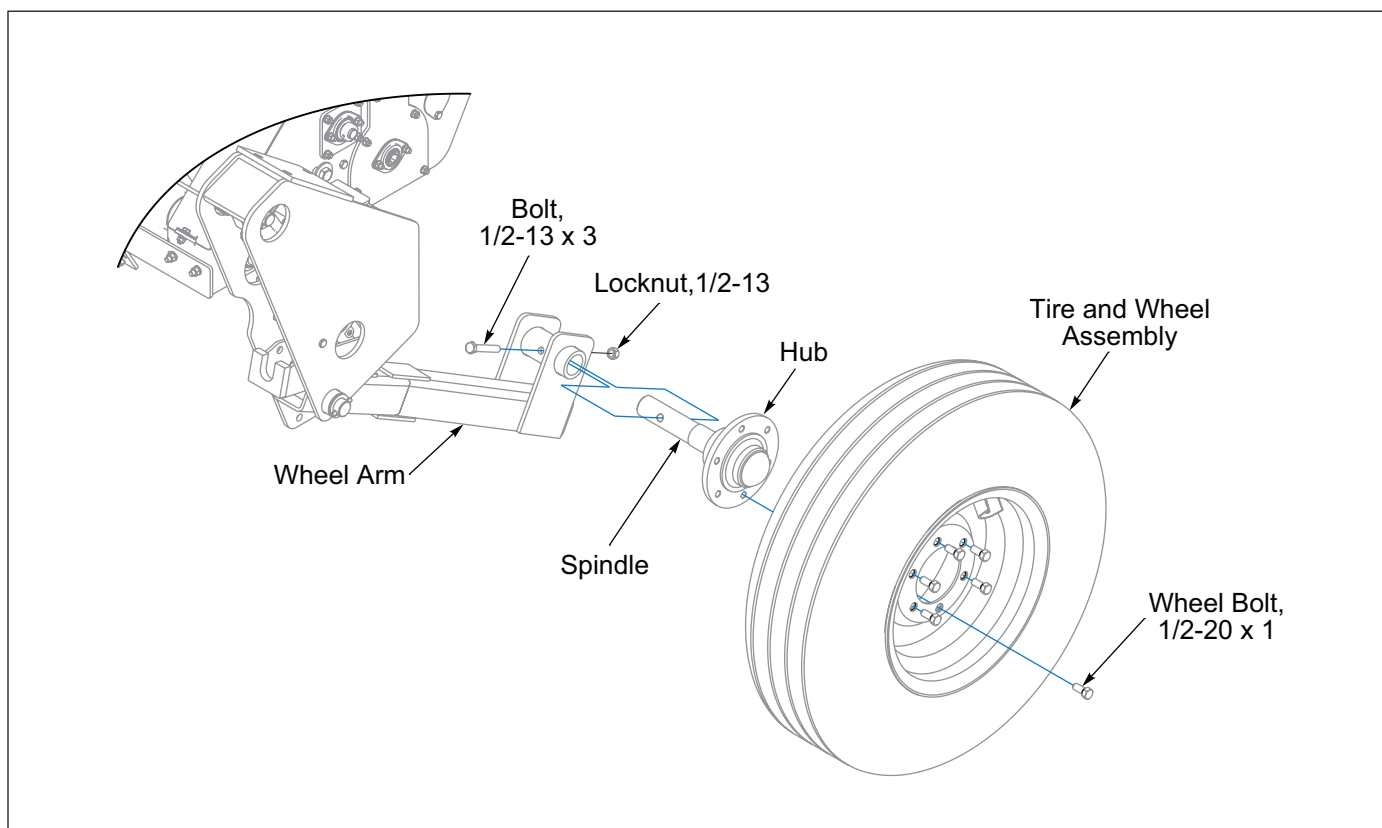

Figure 2-9: Tire and Wheel Installation
6. Apply anti-seize to Spindles and insert a Hub and Spindle Assembly into each Wheel Arm. Secure in with 1/2-13 x 3 Bolts and Locknuts. **See Figure 2-9.**
5. Apply anti-seize to Spindles and insert a Hub and Spindle Assembly into each Wheel Arm. Secure in with 1/2-13 x 3 Bolts and Locknuts. **See Figure 2-9.**